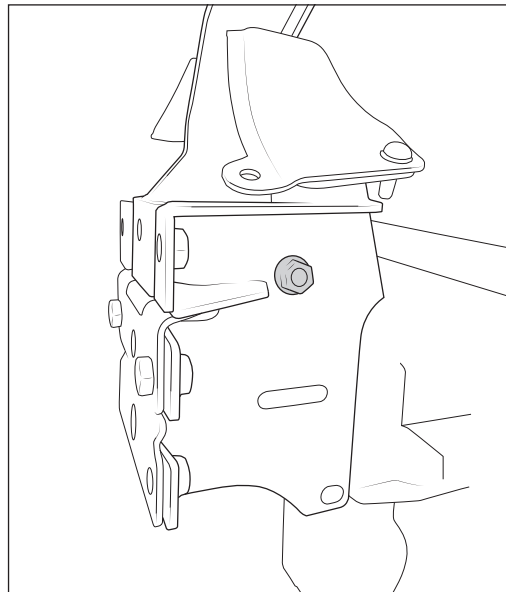

Figure 7
8. Install a black M12x120mm bolt with washer through the top side hole in the outside bracket, through the hoop base, and through the inboard bracket. Hand tighten a flange nut onto the bolt to retain it (fig. 7). You can now remove the hardware holding the brackets to the front frame flanges, unless installing a winch mount.